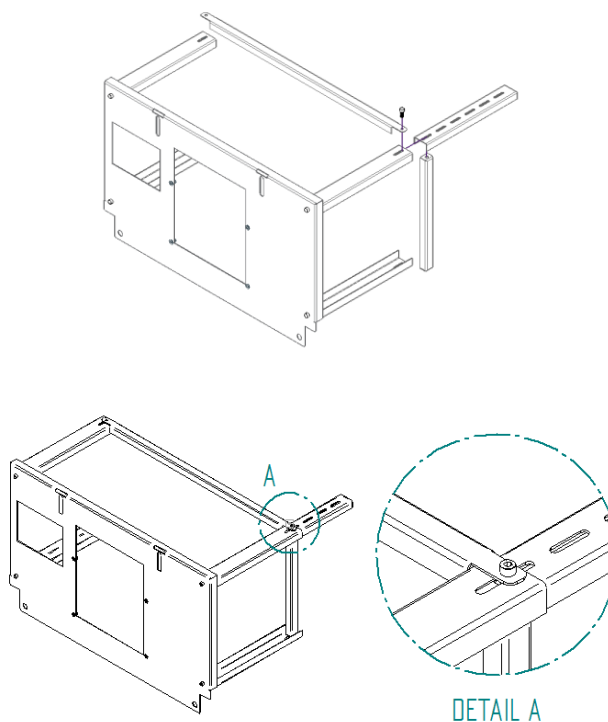

Figure 3 - Auxiliary table assembly
2. Place one of the short interlocks from the inside of one of the leg extensions and insert between the two leg extensions on one side, as can be seen in the picture below. Place one of the long locks from the outside and secure the assembly with a DIN 912 M8x20mm screw. Do not tighten the screw with force, to facilitate the rest of the assembly of the assembly. The leg extension has 5 holes, you must select which to apply, as well as, the total height of the table, as shown in Figure 3.